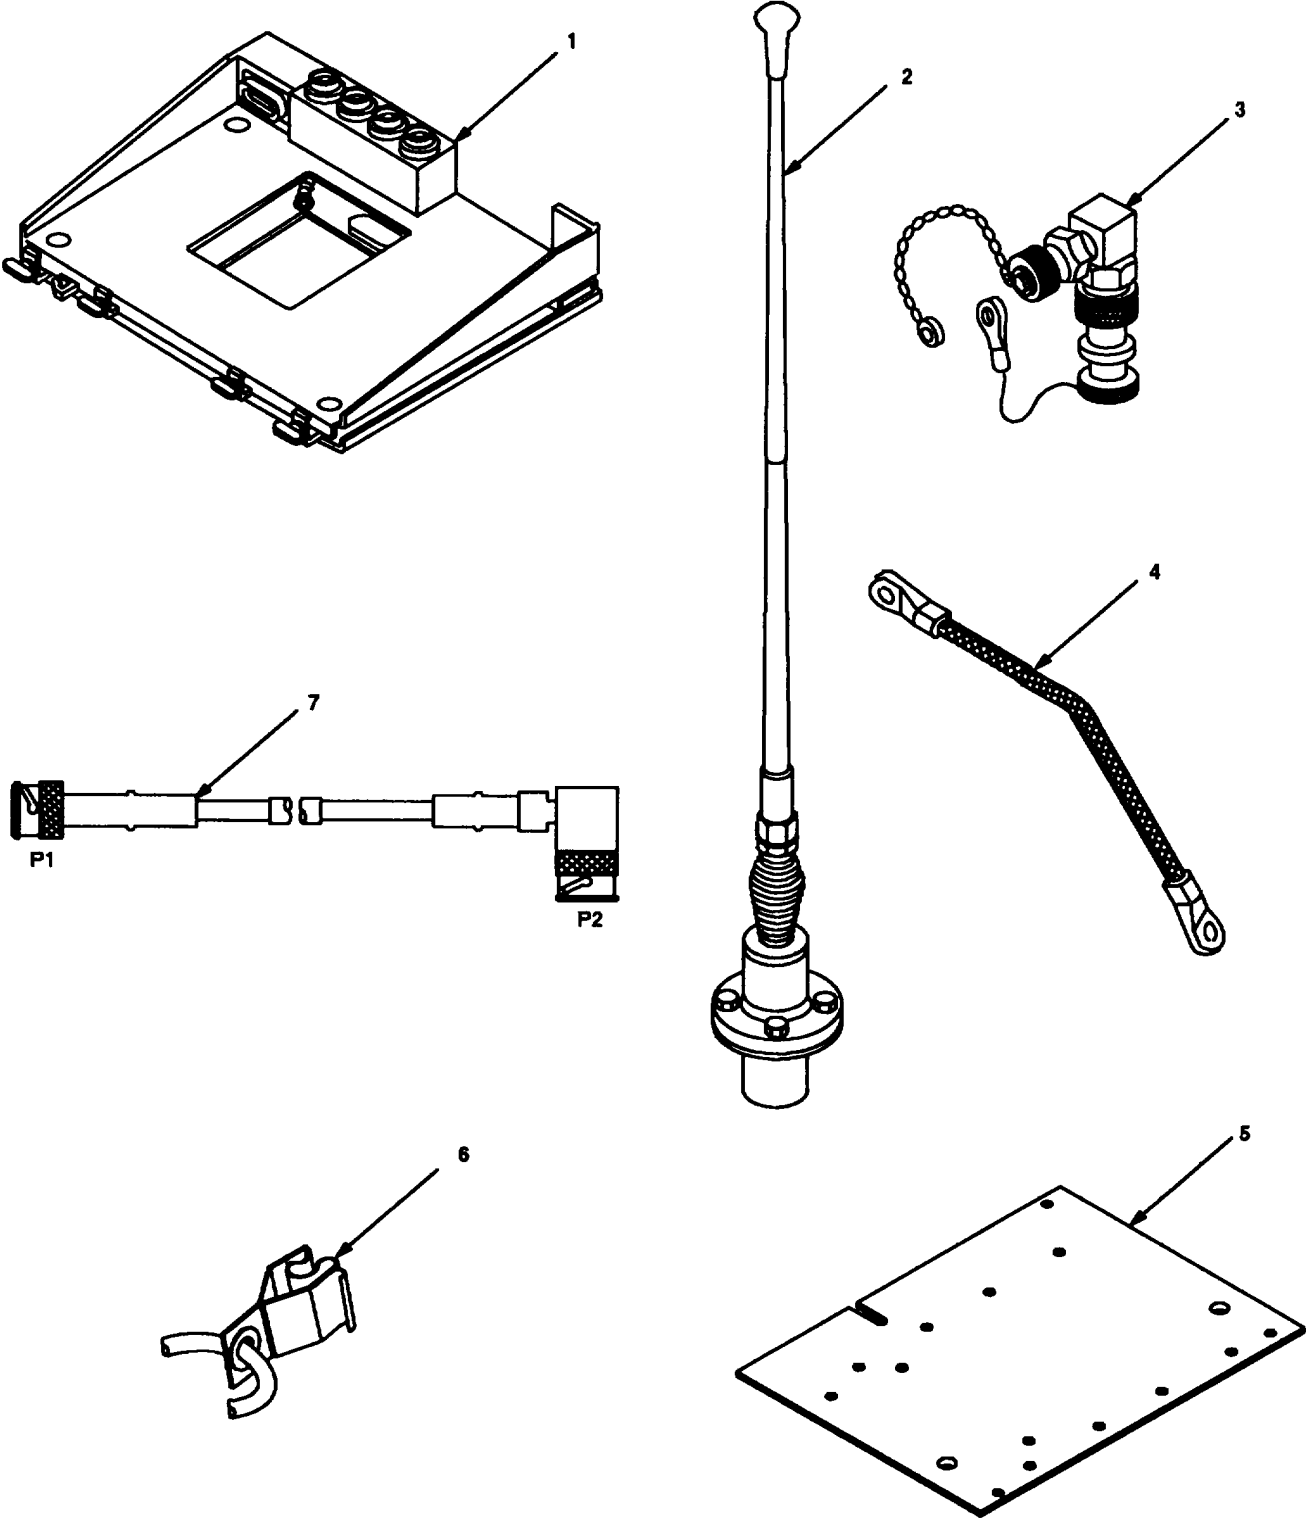
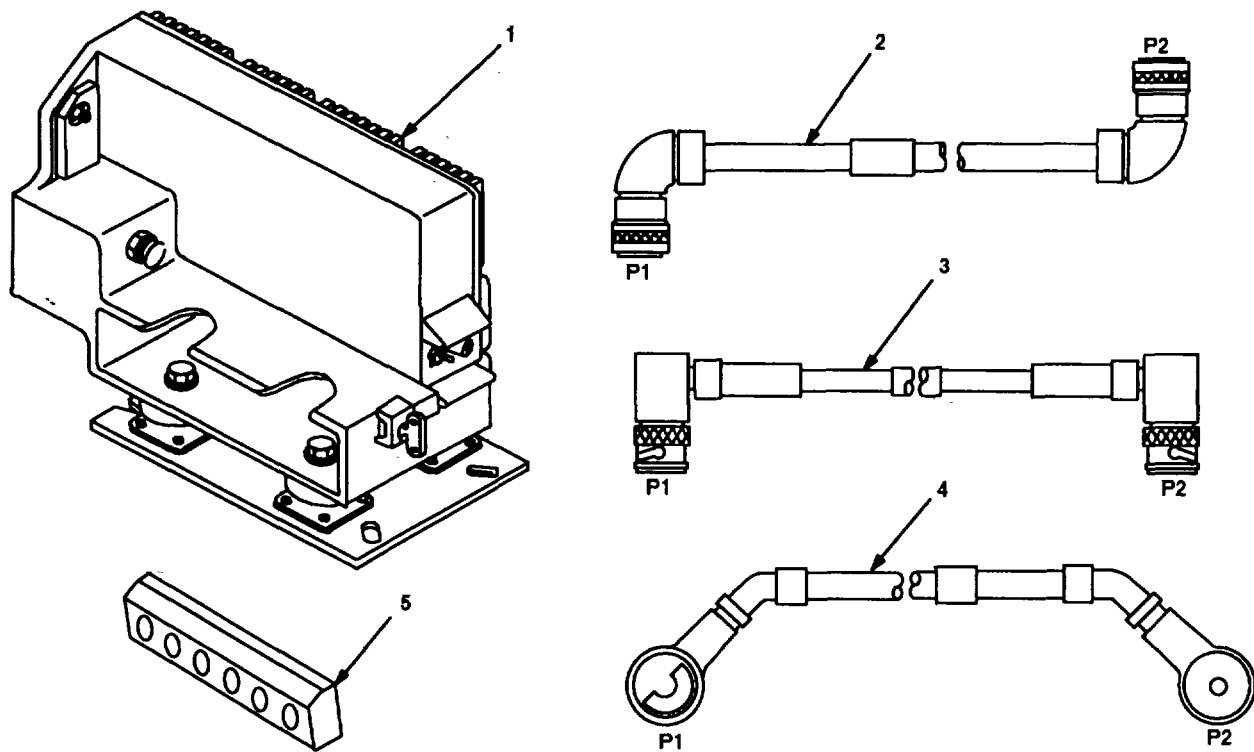
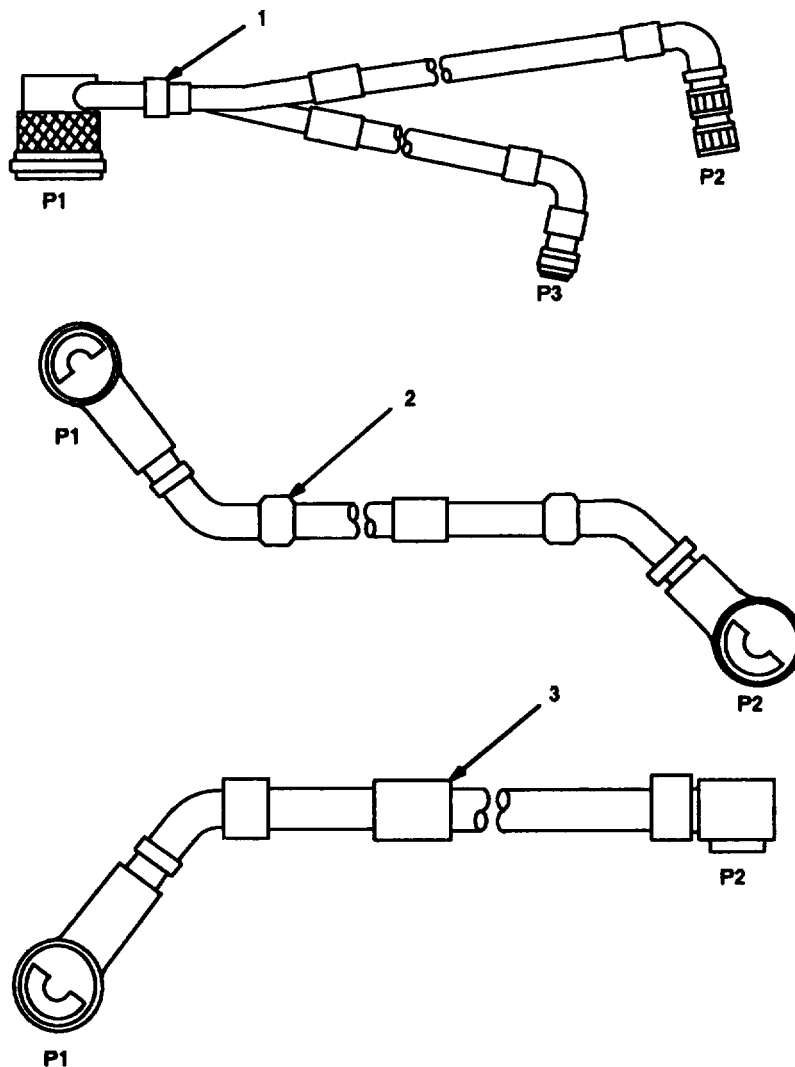

Figure 4-1. MK Illustrated Parts List
Figure 4-2. Illustrated Parts List for Table 4-2
Figure 4-3. TSEC/KY-57 Illustrated Parts List
4.3.1 Items Supplied in MK and/or Required for Installation. Use Table 4-1 and figure 4-1 to identify and inventory MK parts supplied to install Radio Set AN/VRC-89/91/92 Series. Refer to Table 4-2 and figure 4-2 to identify additional items required to install Radio Set AN/VRC-92 Series. Refer to Table 4-3 and figure 4-3 to identify additional items required to install when using RT-1439/VRC.